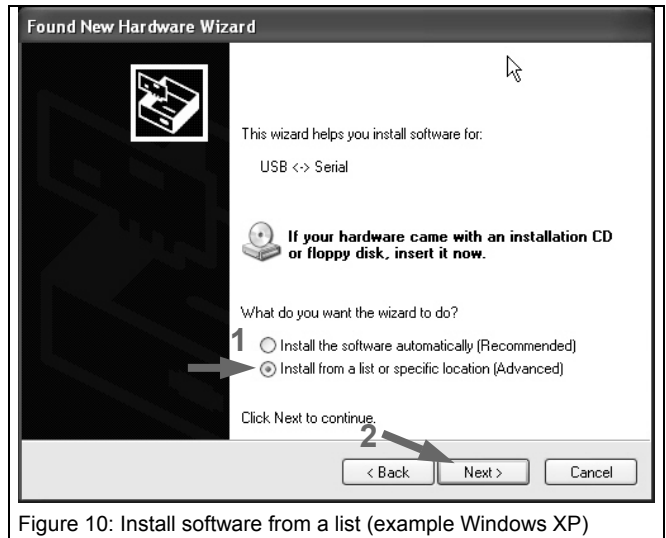

Figure 10: Install software from a list (example Windows XP)
- Windows XP: Select 'Install software from a list' and press continue (Figure 10).